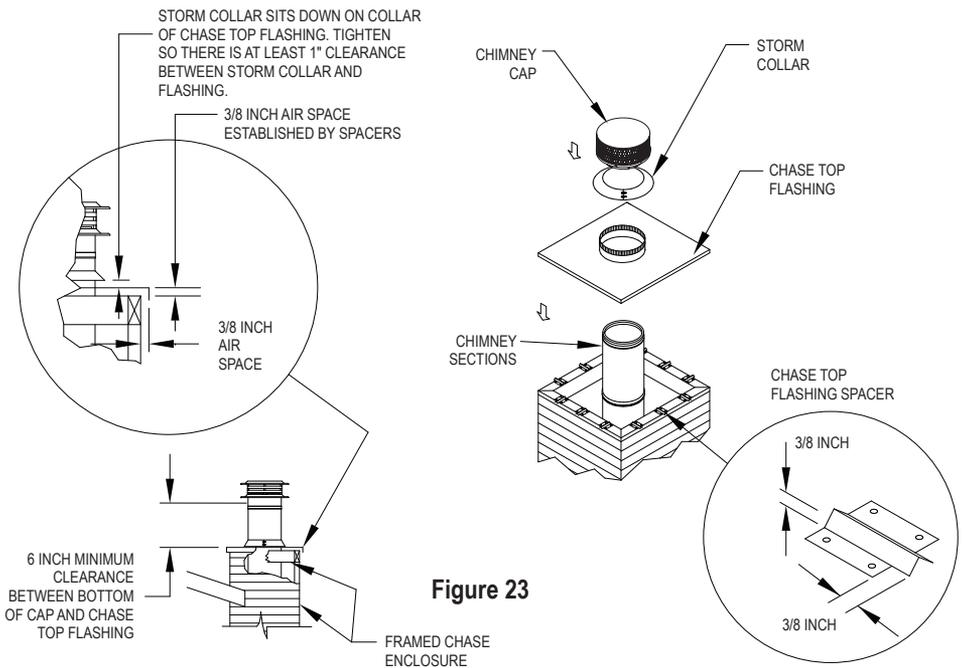

Figure 23
8. Install Chase Top Flashing: It is recommended that a Tee Supported Chimney be enclosed in a chase. If a chase enclosure has been constructed, you can either use a standard flat-roof flashing, or you can use a Chase Top Flashing. Using a Chase Top Flashing allows for a lower profile for the chimney. The Chase Top Flashing has an opening in the center that has a 3" larger diameter than the outer diameter of the LDC Chimney. If the Chase Top Flashing can fit over your chase enclosure as required (**Fig 23**) then install as directed, or trim as needed. However, if the Chase Top Flashing is smaller than your chase enclosure, then you will need to provide a galvanized sheet capable of covering your chase and overhanging the each side by 1/4-1/2 inch. Attach the Chase Top Flashing to the galvanized sheet using sheet metal screws and non-hardening waterproof sealant. Use the Chase Top Flashing Spacers to allow the proper air-gap clearances on the galvanized sheet. The Chase Top Flashing Spacers are available to insure that the proper air-gap is maintained. **Figure 23** displays in some detail, how these air gaps are established using the Spacers and Chase Top Flashing. Secure the Chase Top Flashing to the chase using a sufficient number of #8, 1-1/2" wood screws, being careful to insure the air gap is maintained between the flashing and the chase. Seal the screw heads with non-hardening sealant. Install the Storm Collar directly down on top of the collar of the Chase Top Flashing.